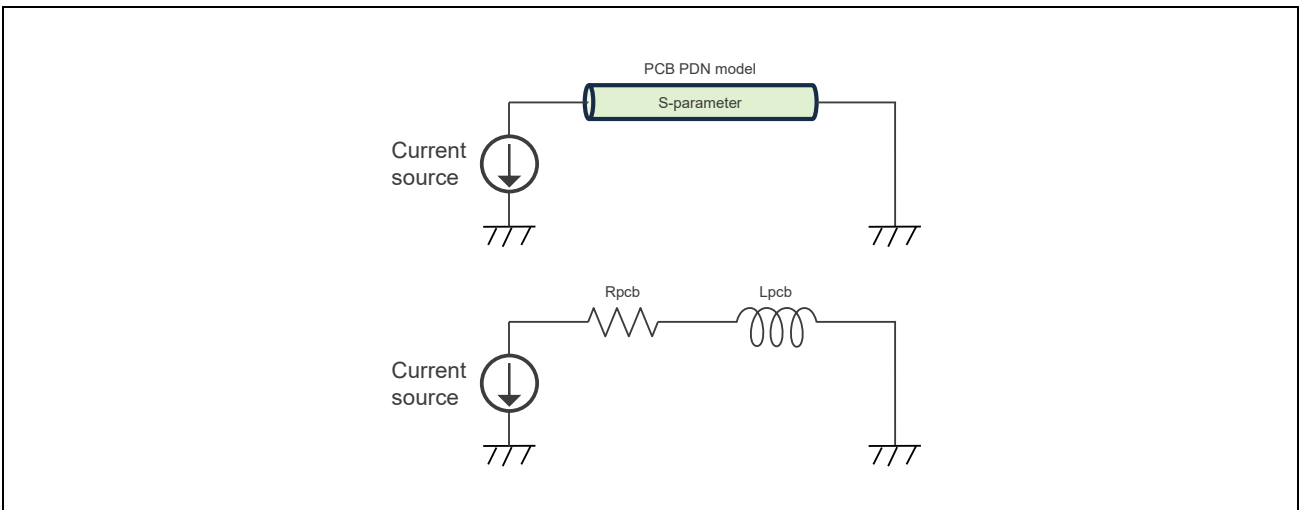

Figure A.3 Simulator Circuit for Indirect Modeling
**Figure A.3** illustrates indirect modeling.